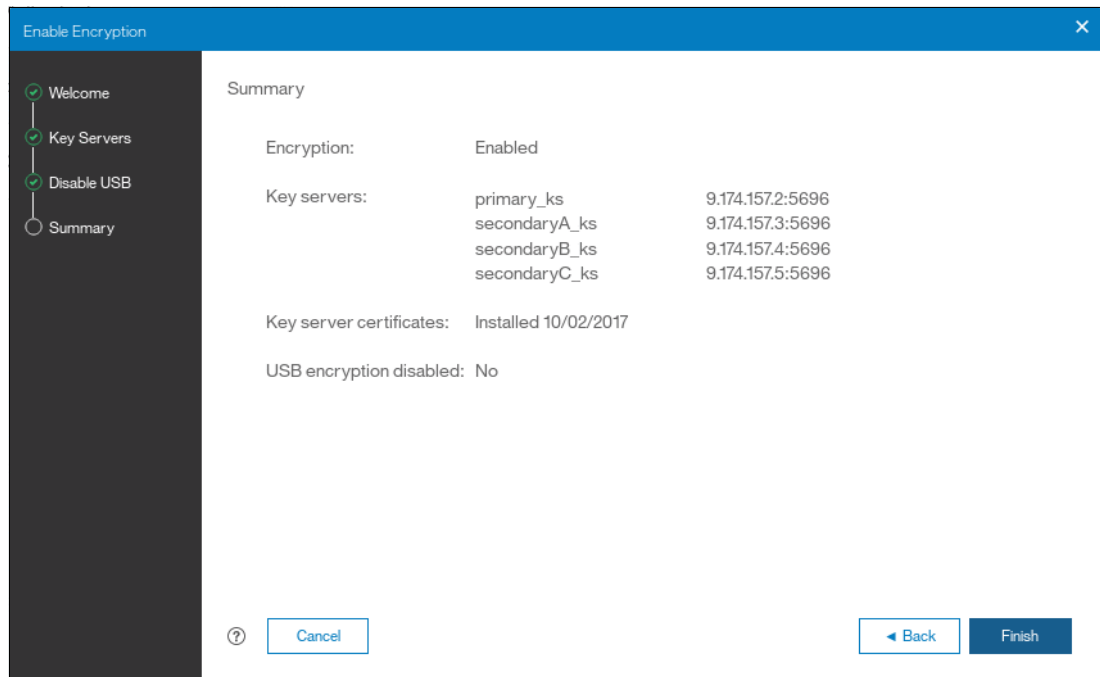

Figure 13-54 Configuration summary before committing
3. This choice is confirmed on the summary screen before the configuration is committed, as shown in Figure 13-54 on page 741.